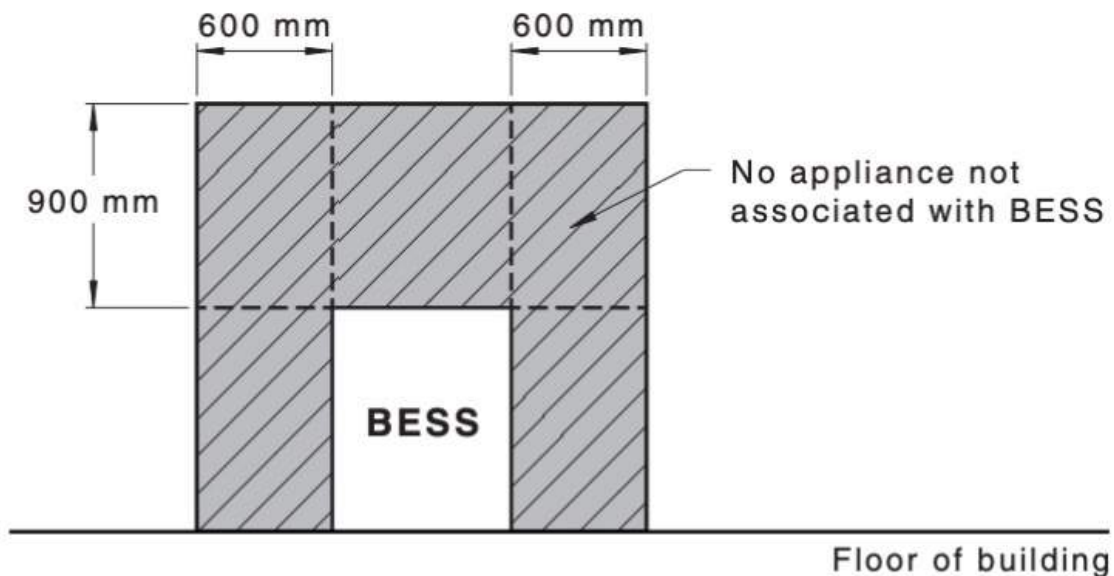

Figure 27: Suggested dimensions and barrier zones for pre-assembled integrated BESS installed on or near a habitable room facing wall (AS/NZS 5139:2019).
- Consider the following dimension recommendations when RENOZ Energy LV Battery System indoors, where the back wall is a habitable room within the allowed dimensions in AS/NZS 5139:2019 as per Figure 27..